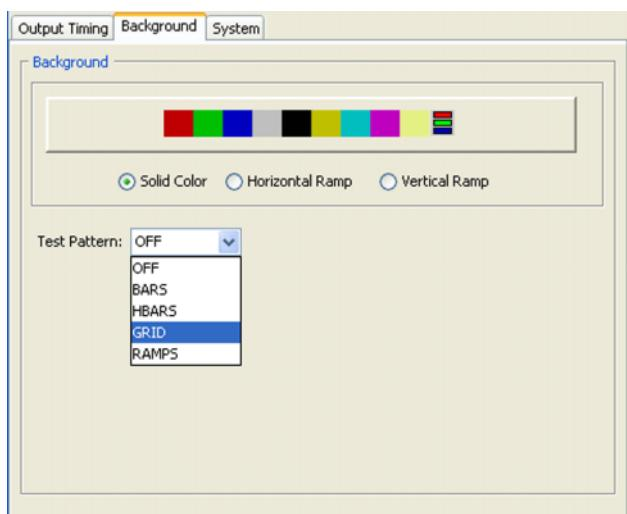

Figure 5-6. WCP Test Pattern selection
- Select the **Background** page (Figure 5-6)